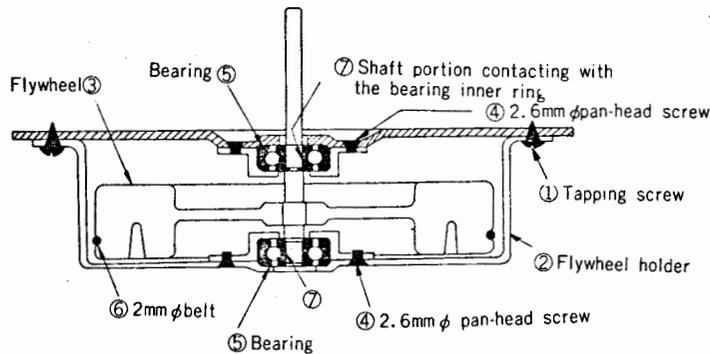

Fig. 11
Remove three 3mmφ tapping screws (1), flywheel holder (2), and 2mmφ belt (6) in the same manner shown in Fig. 11. Remove and replace the flywheel (3). Be careful not to deform or bend the shaft.